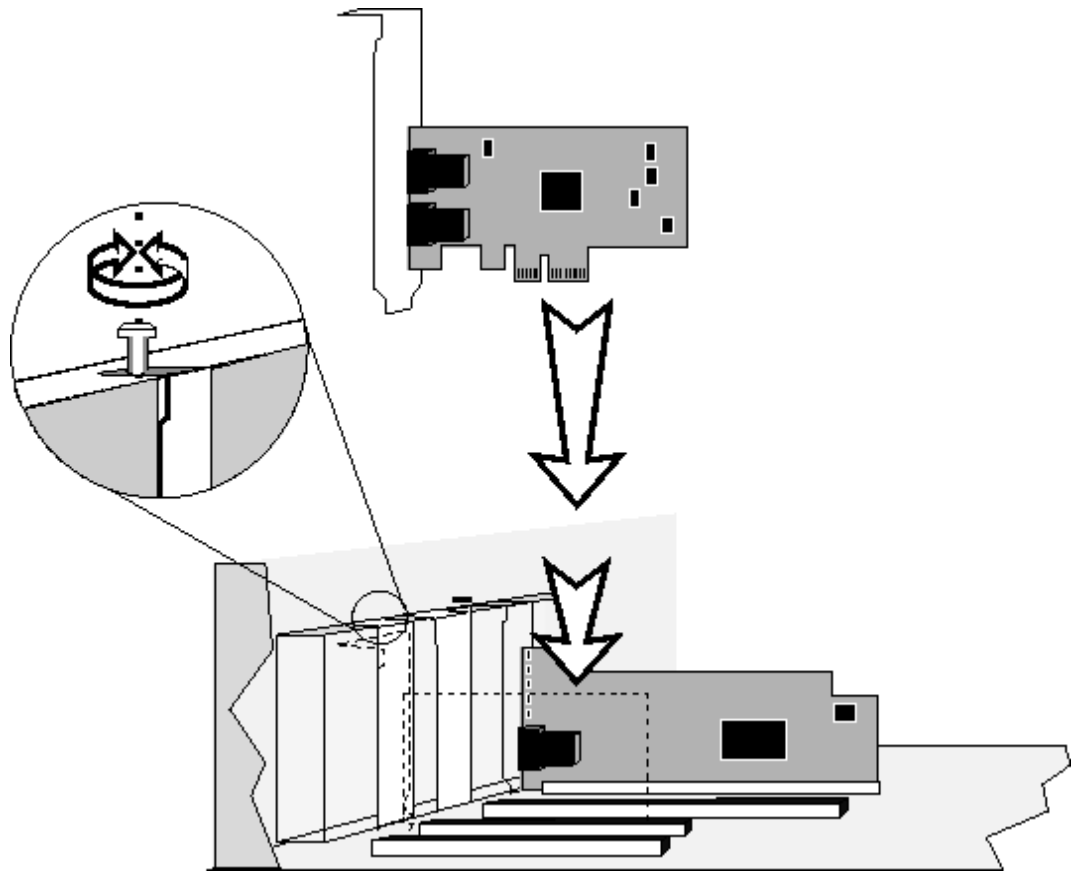

Figure 1. Insertion of the adapter into the computer
8. Insert the network adapter into the PCI Express resp. PCI/PCI-X slot as described in your computer manual (also see figure 1 "Insertion of the adapter into the computer").